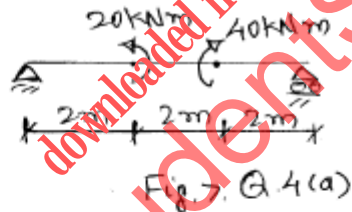

Fig. 7. Q.4(a)
- Q.4** (a) Draw the Shear Force and Bending Moment Diagrams for the beam loaded as shown in Fig.7 **07**